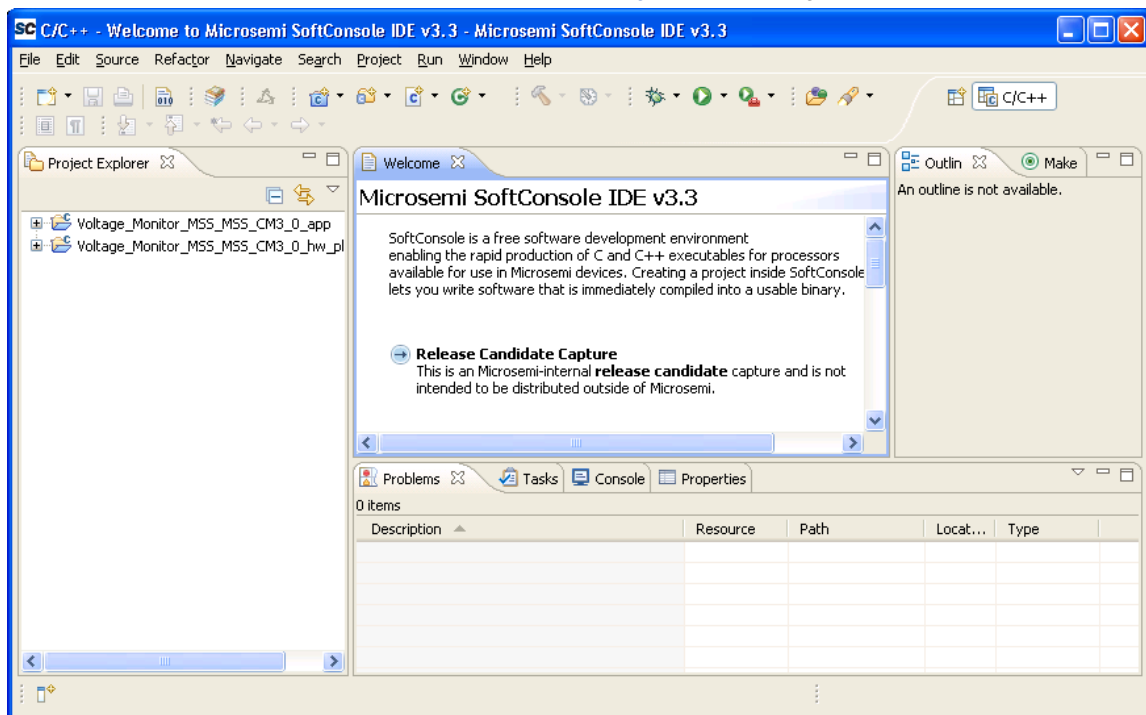

Figure 22 · SoftConsole Window
2. The SoftConsole window looks as shown in Figure 22 · on page 17.